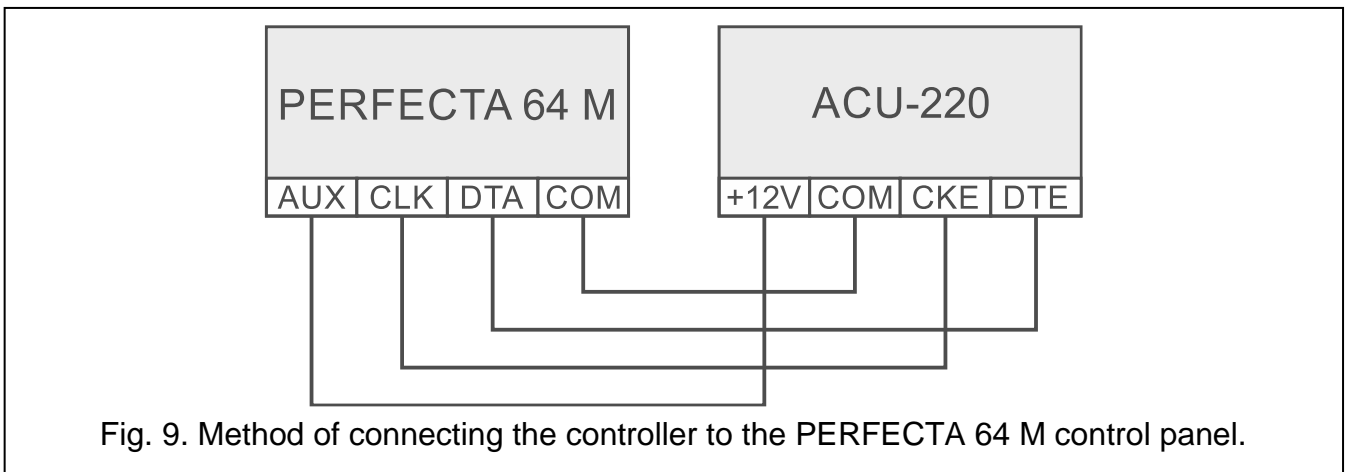

Fig. 9. Method of connecting the controller to the PERFECTA 64 M control panel.
**PERFECTA 64 M:** connect the CKE, DTE and COM terminals to the corresponding terminals of the control panel communication bus (Fig. 9).